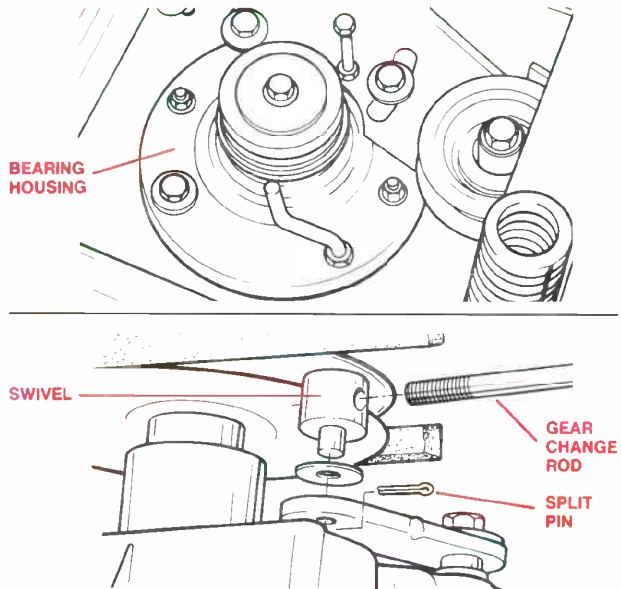

Figure 10. Transmission Belt Replacement.
4. Undo and remove the nuts and bolts as well as the belt guides securing the Power Take Off Bearing Housing to the chassis. (See figure 10).
4. Disconnect the Gear Change and Brake Rods from their respective levers on the Transaxle by removing the split pins from each of the swivels (See figure 10).